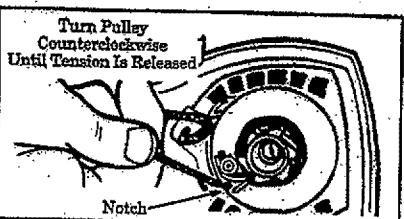

Figure 40
- If the starter rope is not broken, release the spring tension by pulling about 10 inches of rope from the pulley and catch the rope in the notch as shown in Figure 40.